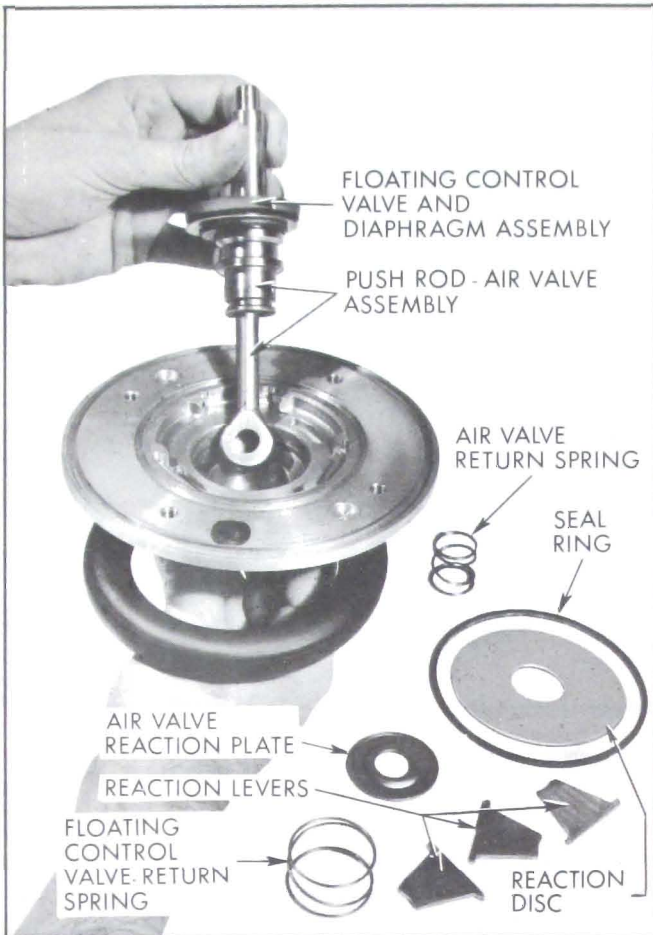

Figure 9-20—Removing Power Piston Parts
10. From power piston assembly remove reaction disc, three reaction levers, air valve reaction plate, floating control valve return spring, and air valve return spring. Remove power piston seal ring. See Figure 9-20.